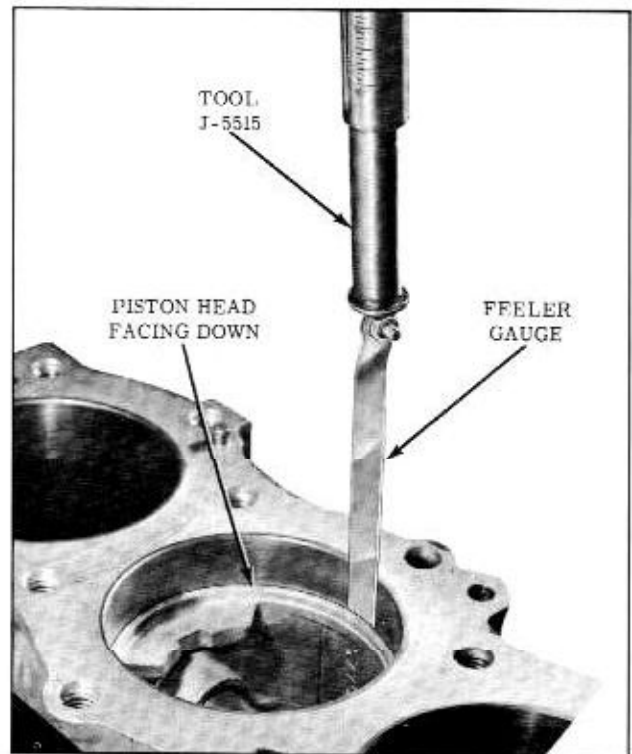

Fig. 8-25 Checking Piston Clearance
1. Place a strip of .0015" feeler gauge against the upper side of the bore, at 90° to the normal piston pin location. Attach scale J-5515 to feeler gauge. (Fig. 8-25)